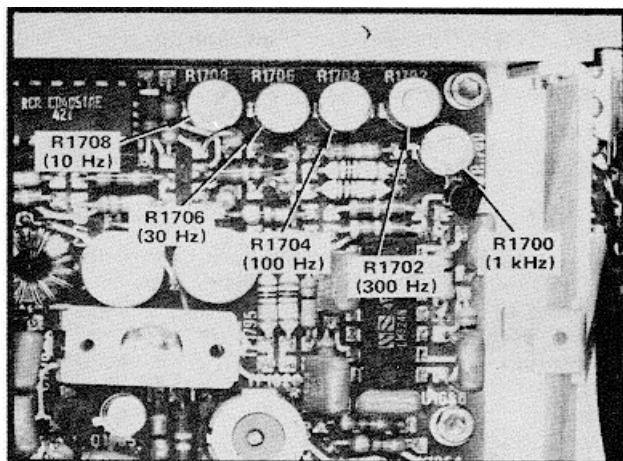

Fig. 4-18. Bandwidth adjustments for Variable Resolution Amplifier.
g. ---Calibrate the resolution bandwidth (6 dB down) for the 1 kHz to 30 Hz RESOLUTION positions by decreasing the resolution bandwidth and FREQUENCY SPAN/DIV settings sequentially and adjusting the respective bandwidth with R1700 (1 kHz), R1702 (300 Hz), R1704 (100 Hz), and R1706 (30 Hz). See Fig. 4-18 for adjustment locations.
h.--- Switch the RESOLUTION to 10 Hz. Adjust the 10 bandwidth with R1708 (Fig. 4-18) so the bandwidth, 70 down, is $100 \text{ Hz} \pm 20 \text{ Hz}$.